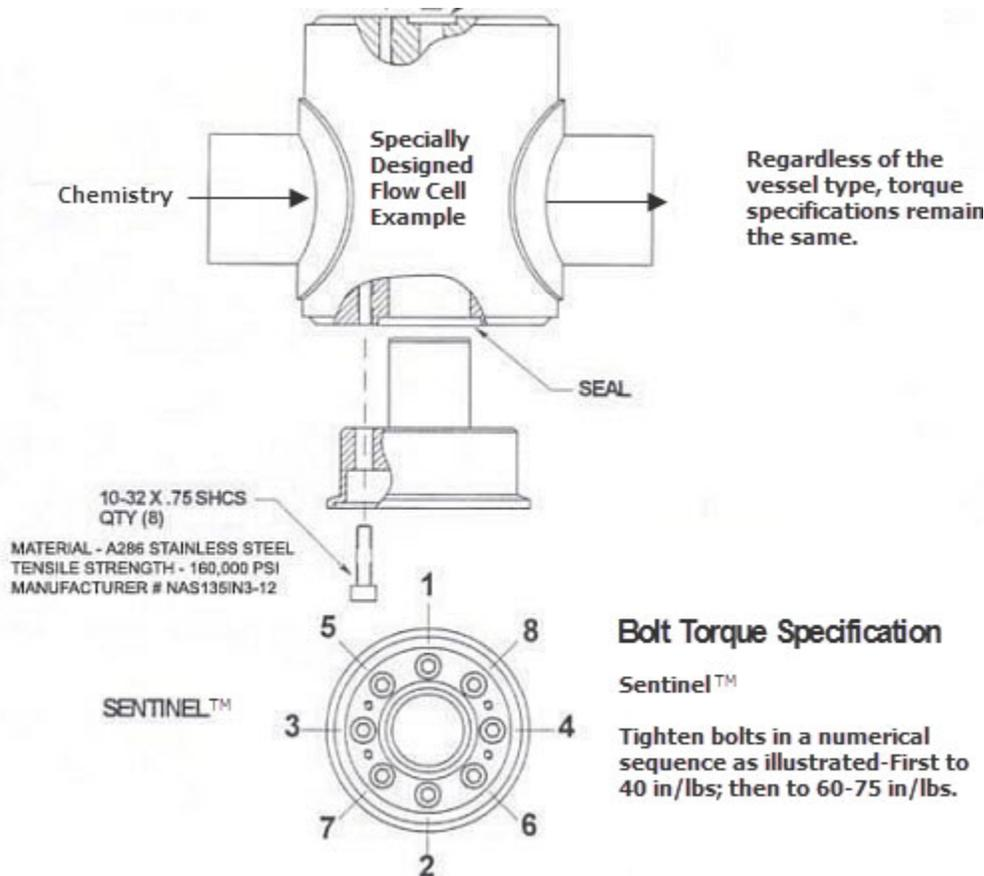

Figure 4-9 Bolt torque specifications for a Sentinel
2. Tighten the bolts in the numerical sequence illustrated in Figure 4-9.